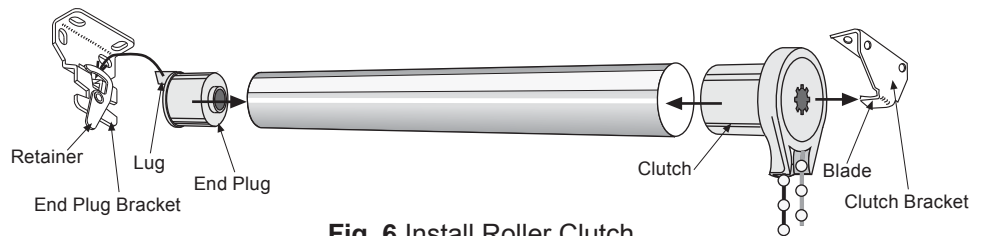

Fig. 6 Install Roller Clutch
Step 5. Insert the clutch and the end plug in the roller as shown in Fig. 6.